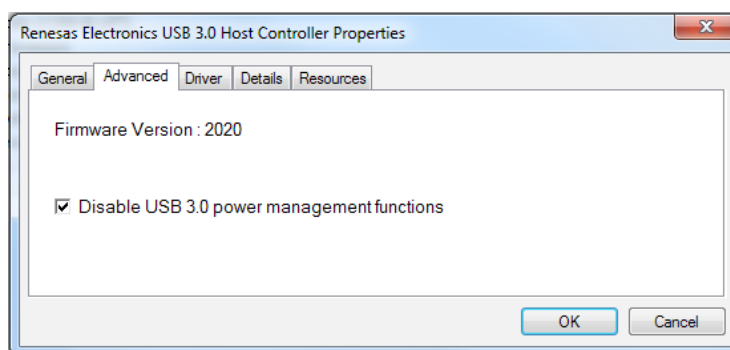

Figure 36: Disabling the power management function of the USB 3.0 Host Controller
- Check the **Disable USB 3.0 power management functions** checkbox as shown in Figure 36.